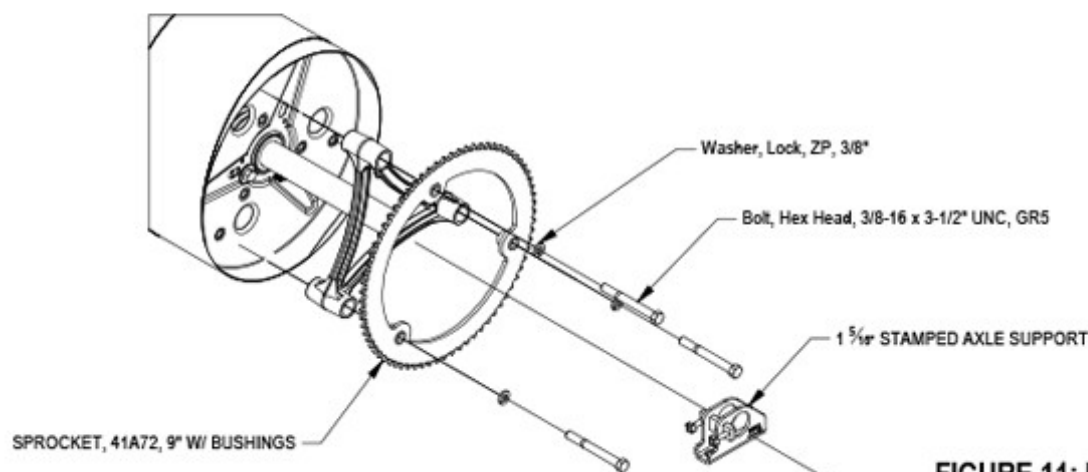

FIGURE 11: ELECTRIC OPERATOR
- Attach Support Spacer and Sprocket to drum using (3) $\frac{3}{8}$ " lock washers and $\frac{3}{8}$ -16 x 3- $\frac{1}{2}$ " Hex bolts.
- Tighten $\frac{3}{8}$ " - 16 square head set screws when in place. *See Figures 11.*